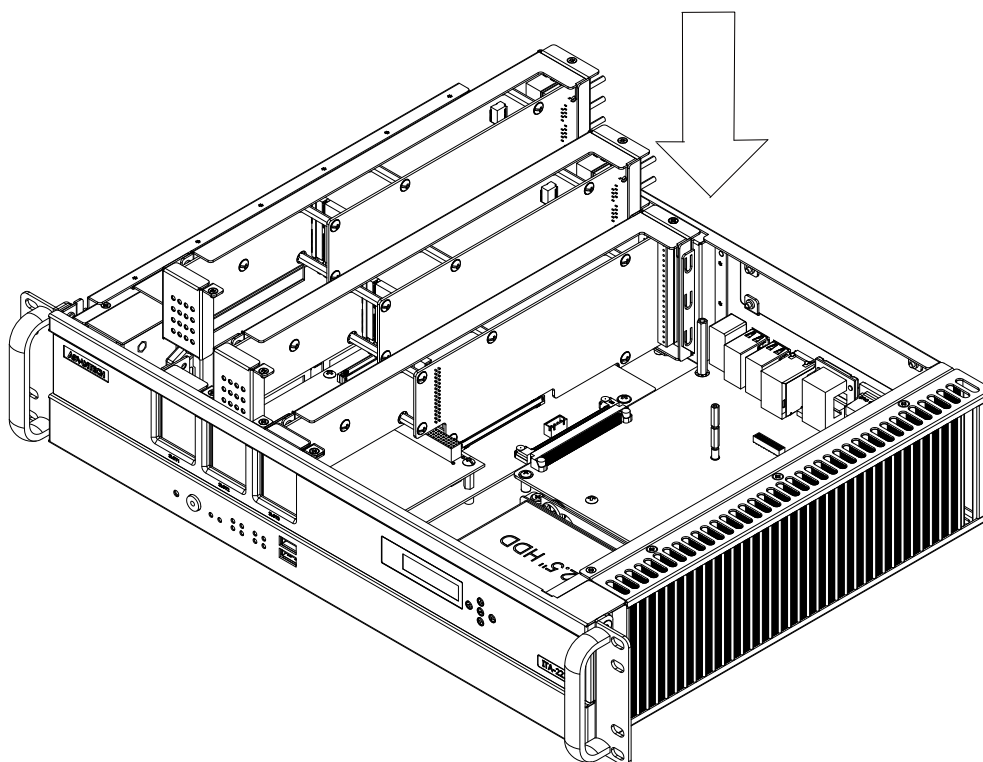

Figure 3.6: ITAM Card Module Installation
2. Insert the ITAM module as shown in Fig. 3.6.